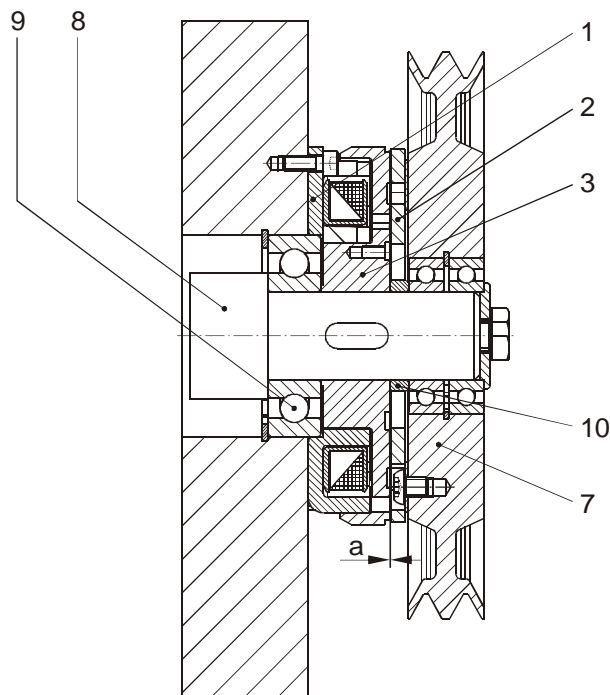

Fig. 3
## Installation Example 1 (Fig. 3)
- Centred by a ball bearing (9), Figs. 3/4.
The rotor (3) must be secured axially in operation, see Installation Examples Figs. 3 and 4.
- 4.1. Adjust the air gap "a" according to Table 1 and Figs. 3/4.
- 4.2. Secure the mounting part or flange hub (6) axially backlash-free.
Axial backlash changes the air gap "a" and can lead to the rotor (3) rubbing against the armature disk (2) (see Installation Examples Figs. 3 and 4).